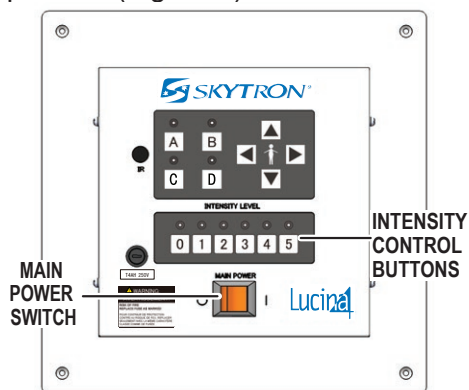

Figure 8. Wall Control
1. Place the **MAIN POWER** switch in the ON (I) position (Figure 8).